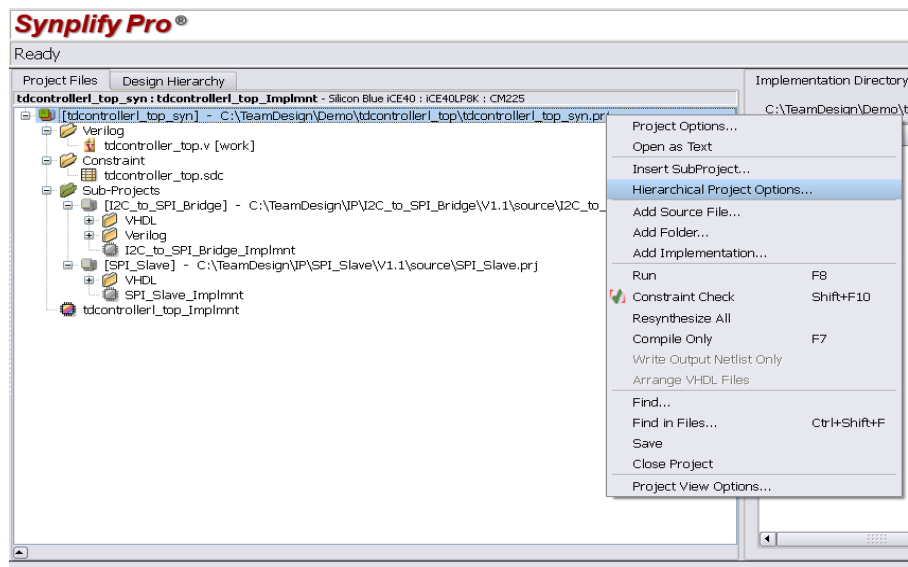

Figure 9-10 : Select Hierarchical Project Options Menu
1. In the Synplify Pro tool, select the top level project and right-click it. Select "Hierarchical Project Options" as shown in Figure 9-10.